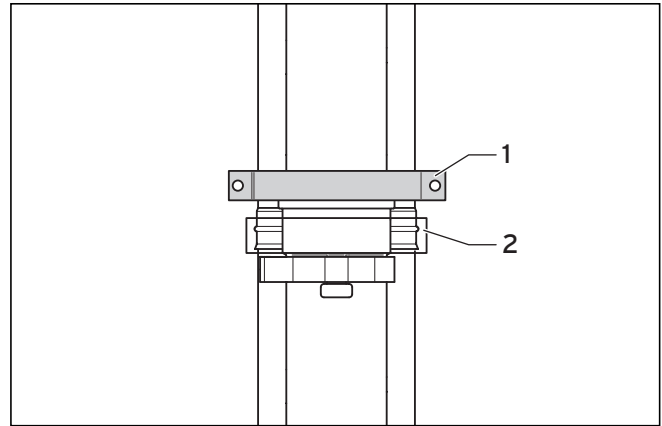

Fig. 2.26 Shortenable extension with external fastening clamp
**As the underside of the outer pipe of the shortenable extension has no corrugation, it is not possible to stabilise the pipe system with the clamping ring (2). An additional fastening clamp (1) is necessary to prevent the system from disconnecting or detaching as a result of wind loads.**
- Install an additional fastening clamp immediately above the shortenable extension (1), as shown in Fig. 2.26.